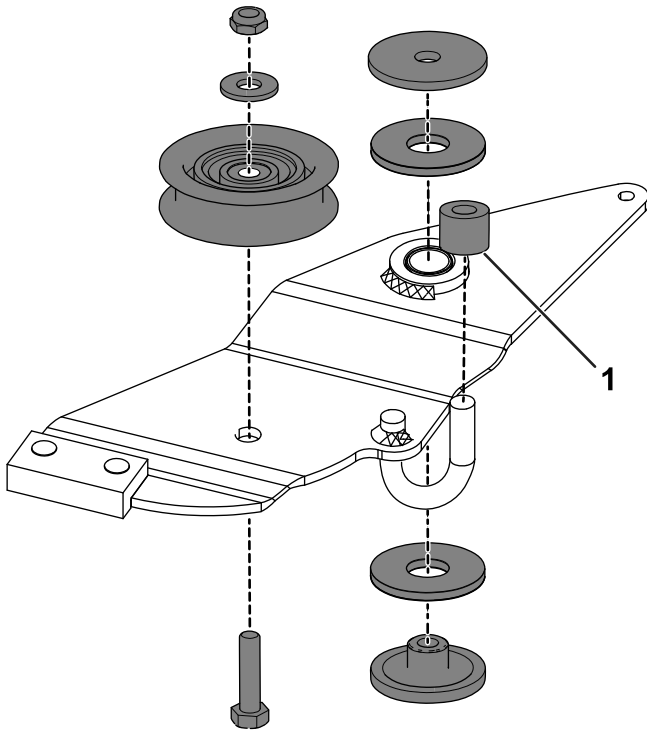

Figure 12
1. Install the rubber spacer and the hardware from the old brake arm onto the new brake arm (Figure 12).